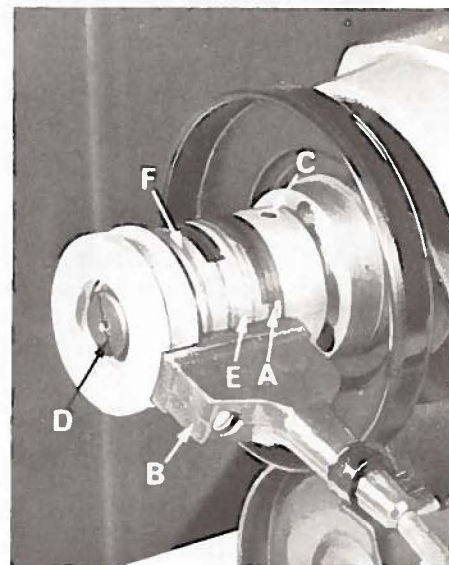

Fig. 37
- (b) At this time the brass contact of the left band (A, Fig. 37) should be flush with the front edge of the brush holder (B). To make this adjustment position needle bar and deflector plate as described above, then loosen set screws (C) in synchronizer and move as required.
- (c) The needle positioner should position needle at bottom of stroke. If not, with power off rotate handwheel until it is at bottom. Then loosen screw (D) at end of synchronizer and rotate third band from left (E) in operating direction until its brush is in the middle of the black plastic band.